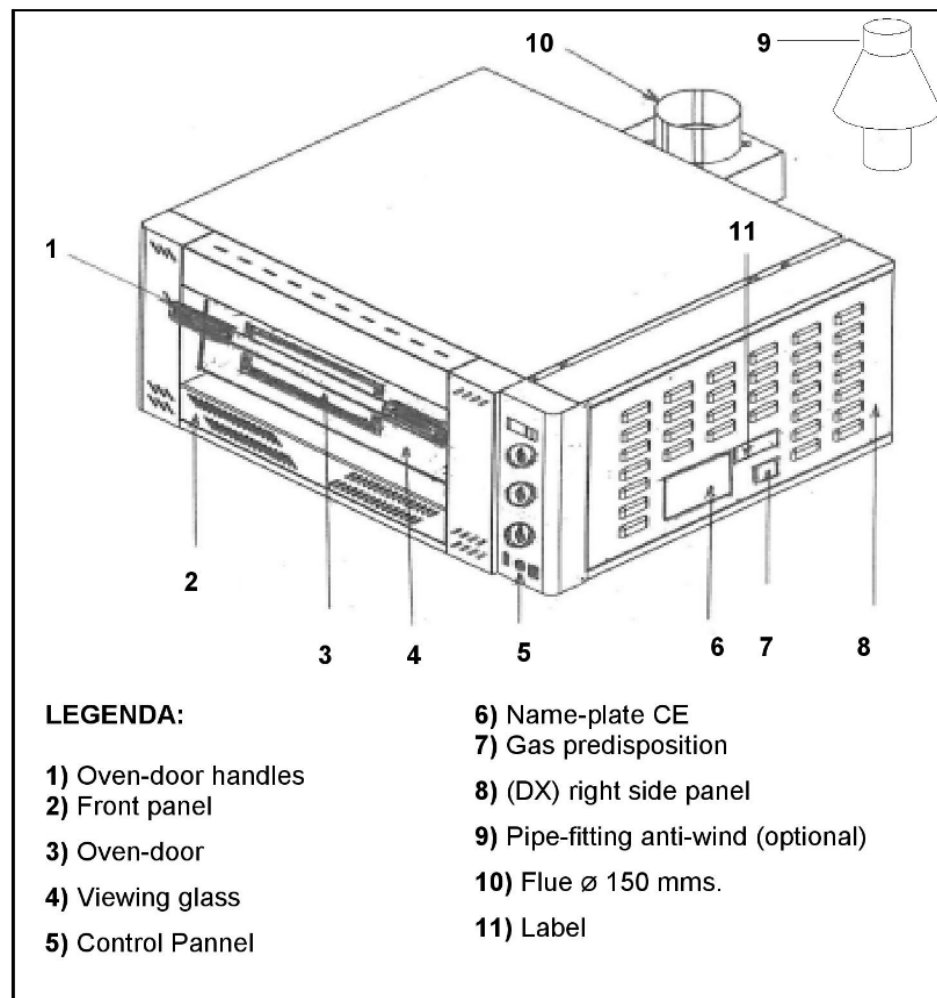

FIG.3 (Components description)
Remove the front panel (**FIG.3-Ref.2**) unscrew the screws;
- Remove the front panel (**FIG.3-Ref.2**) unscrew the screws;
- Remove the right side panel DX (**FIG.3-Ref.8**) unscrewing the screws;
Remove the front panel (**FIG.3-Ref.2**);
- 1) Open manually the oven door (FIG.3-Ref.3) using the handles (FIG.3-Ref.1);
- 4) Close the oven door and control the cooking through the viewing glass (FIG.3-Ref.4);
It is possible to control the pilot flame through the loophole at the right side of the frontal panel (**FIG.3-Ref.2**) .